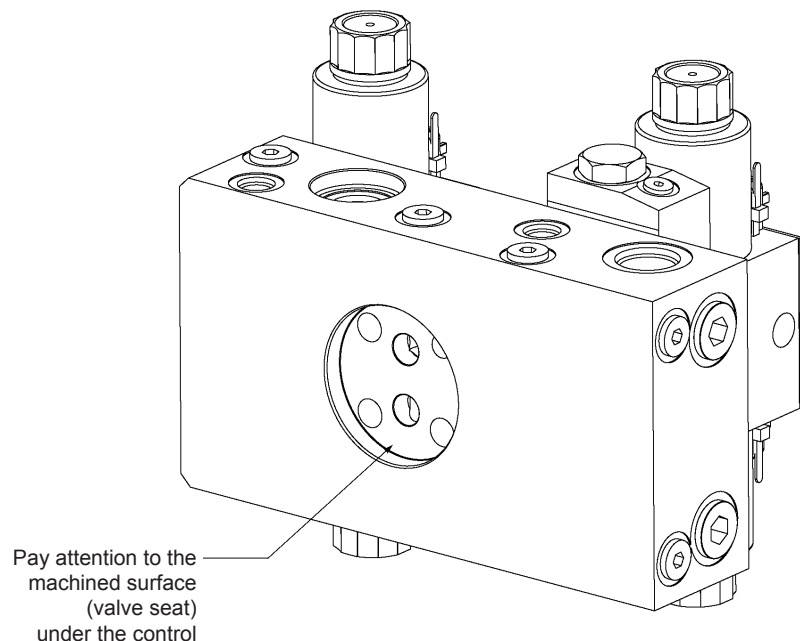

Figure 22
- 1.2 Disconnect the electrical connectors (Qty 4) from the coils and remove the hydraulic hoses as shown on drawing (fig. 22). NOTE: The color code on the electric coils.